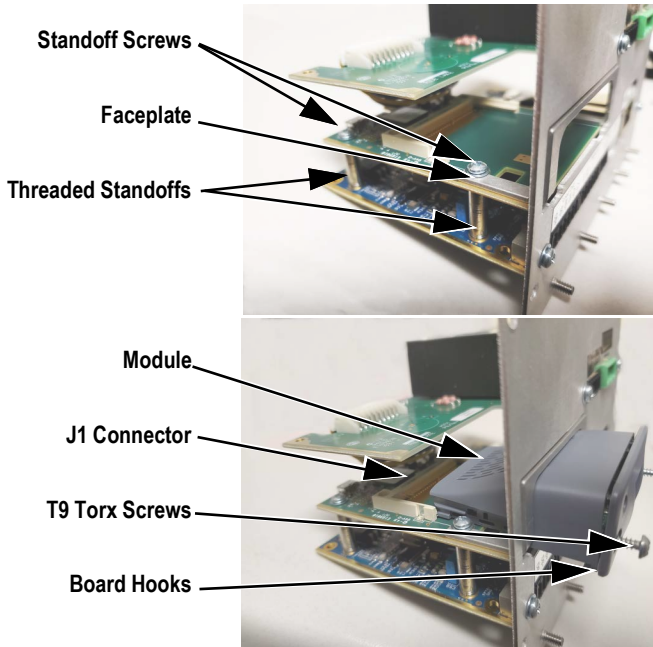

Figure 2-4. 880 Panel Mount Interface Option Card Installation
3. Carefully slide the module into the J1 connector on the carrier board, ensuring that the pins of J1 are not bent (see Figure 2-4 on page 12).